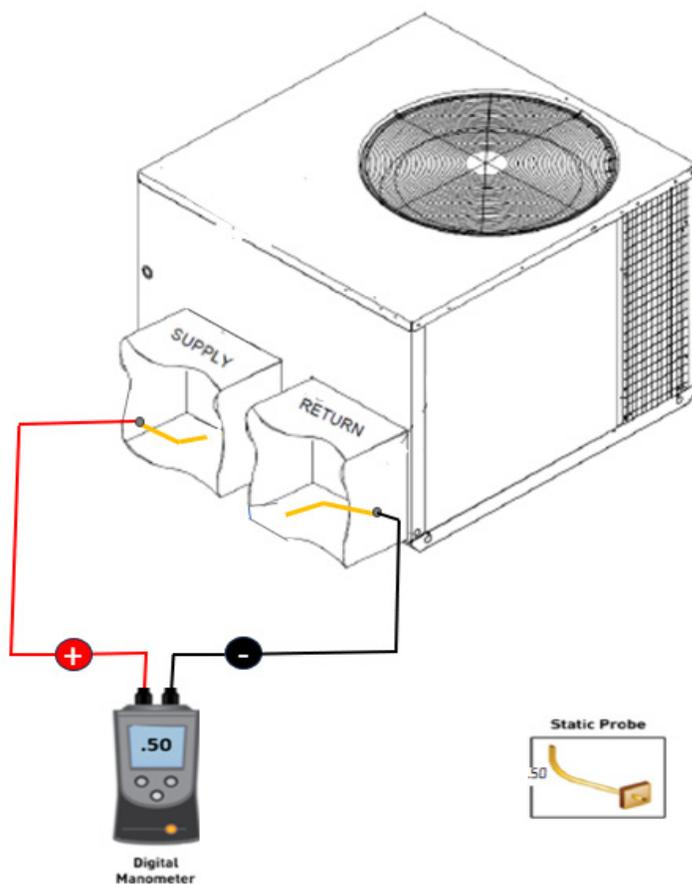

FIGURE 10: TOTAL EXTERNAL STATIC
1. Using a digital manometer measure the static pressure of the return duct at the inlet of the unit (Negative Pressure). SEE FIGURE 10: TOTAL EXTERNAL STATIC.